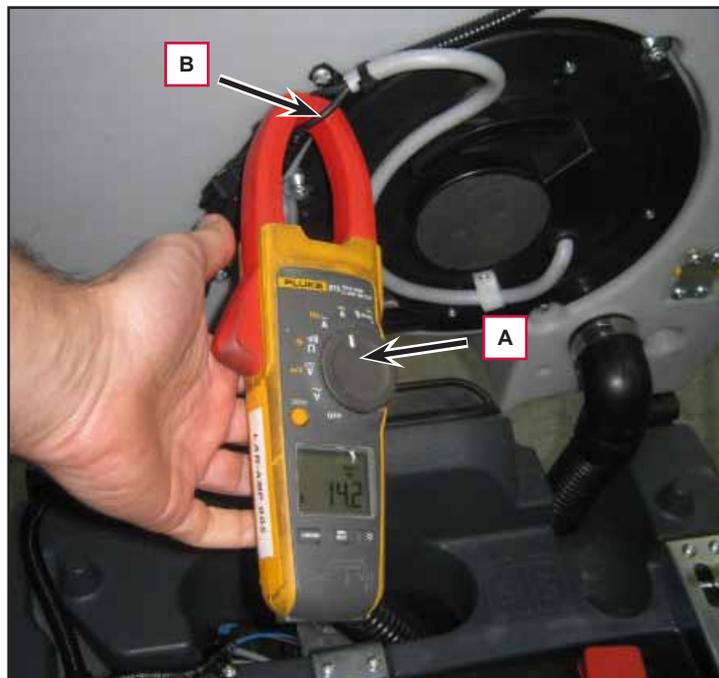

Figure 5
13. Apply the amp clamp (A) to a cable (B) near the vacuum unit (Figure 5).